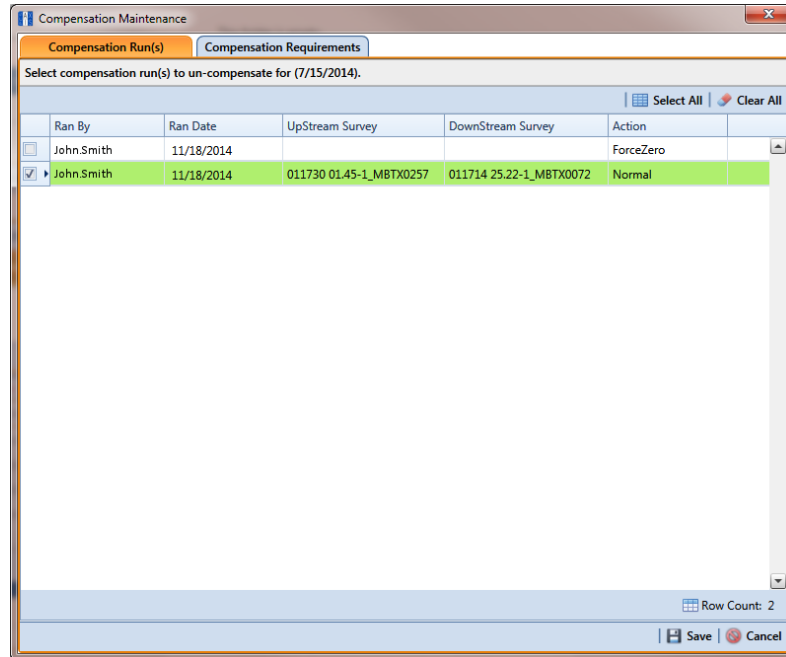

Figure 14-25. Maintenance
- 4 Click  **Maintenance** to open the *Maintenance* window (Figure 14-25, page 682).